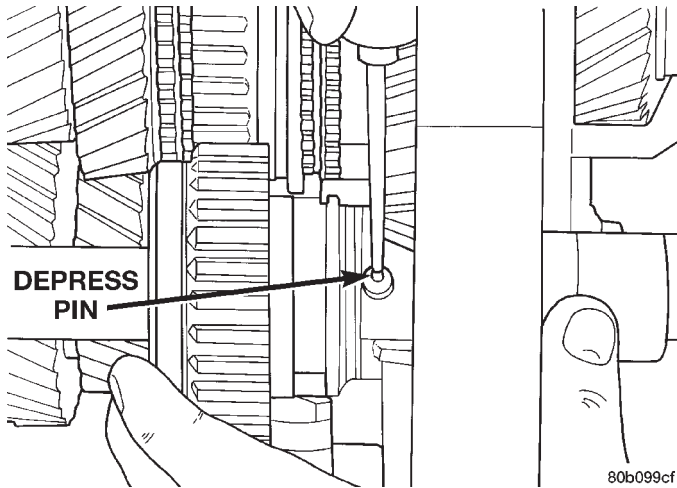
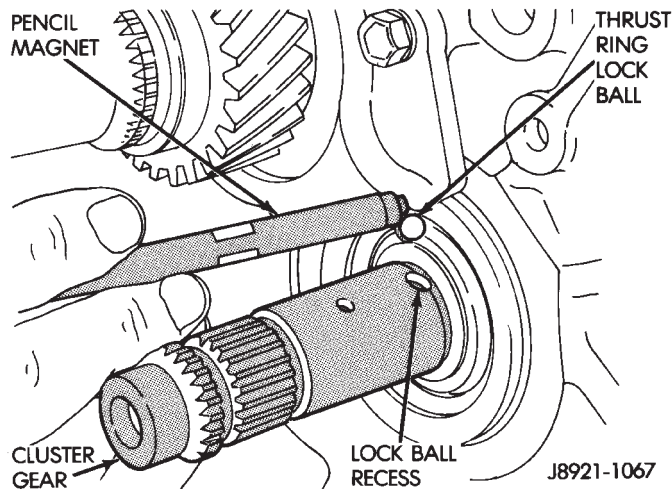

Fig. 92 Depress Pin in Reverse Idler Gear Shaft
Fig. 93 Install Fifth Gear Thrust Ring Lock Ball
(35) Depress compression spring and pin in reverse idler gear shaft (Fig. 92).
(36) Install the reverse idler gear shaft the remainder of the way through the reverse idler gear assembly.
(37) Position the reverse idler gear shaft lock plate onto the intermediate plate.
(38) Install a new bolt to hold the idler gear shaft lock plate to the intermediate plate.
(39) Install the fifth gear thrust ring lock ball to the countershaft (Fig. 93).